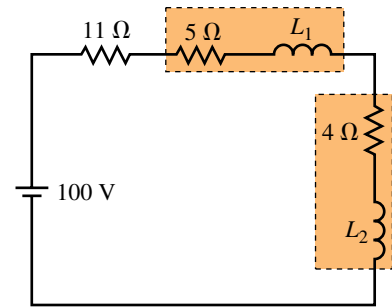

FIGURE 13-43
34. In Figure 13-43, $L_1 = 2L_2$. The total energy stored is $W_T = 75$ J. Find L_1 and L_2 .